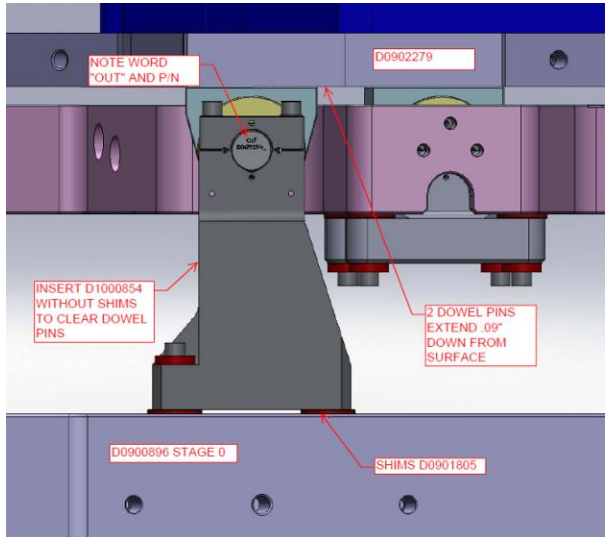

Figure 43: D1000854 Stage 0-1 Locker Assembly Installation 1/2
- Repeat these steps for the (2) other D1000855 Stage 1-2 Locker Assemblies.
1.35. Attach D1000854 Stage 0-1 Locker Assemblies the bottom of D0902279 Stage 1 Base Plate & the top of D0900895 Top Part of Stage 0 as shown Figure 43 & Figure 43.